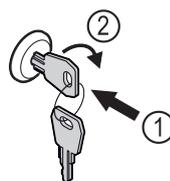

Fig. 110
- ▶ Insert key Fig. 110 (1).
- ▶ Turn key clockwise by 90° Fig. 110 (2).